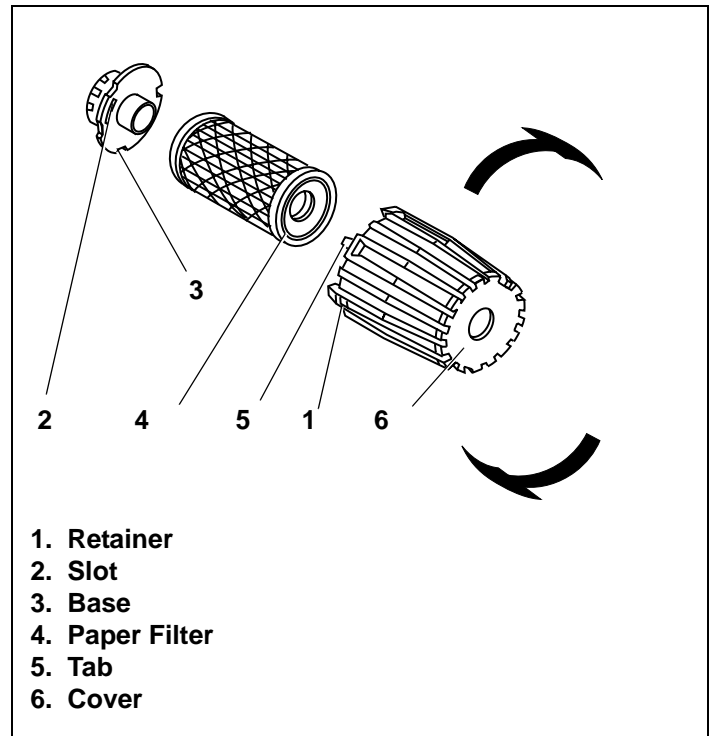

Figure 42. Type "B" Air Cleaner Assembly
1. Turn cover counterclockwise and remove it and paper filter from base. See Figure 42.